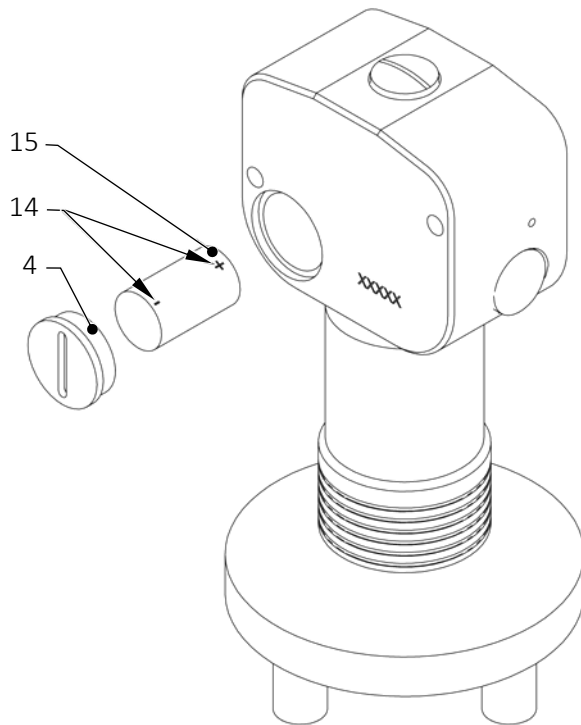

Fig. 7 Exchange of battery
- Switch on the hardness tester (1.00) by ON/OFF ZERO-key (8).
- The MODE-key (1.07) has got no function!!!
- Put specimen (13) onto supporting table (5.01).
- The hardness test is interrupted by releasing the hardness tester (1.00, FIG.7) before the audio signal by turning the handwheel i (4.03) in the contrary direction.